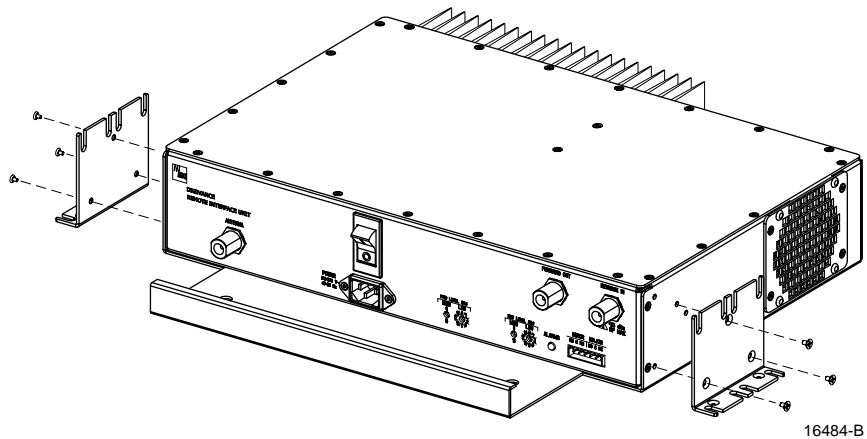

Figure 6. Installing the Mounting Brackets for Wall-Mount Installation
4. Reinstall both mounting brackets so the short side of the bracket is flush with the bottom of the RIU as shown in Figure 6. Use the screws removed in step 3 to re-attach the brackets to the RIU enclosure.